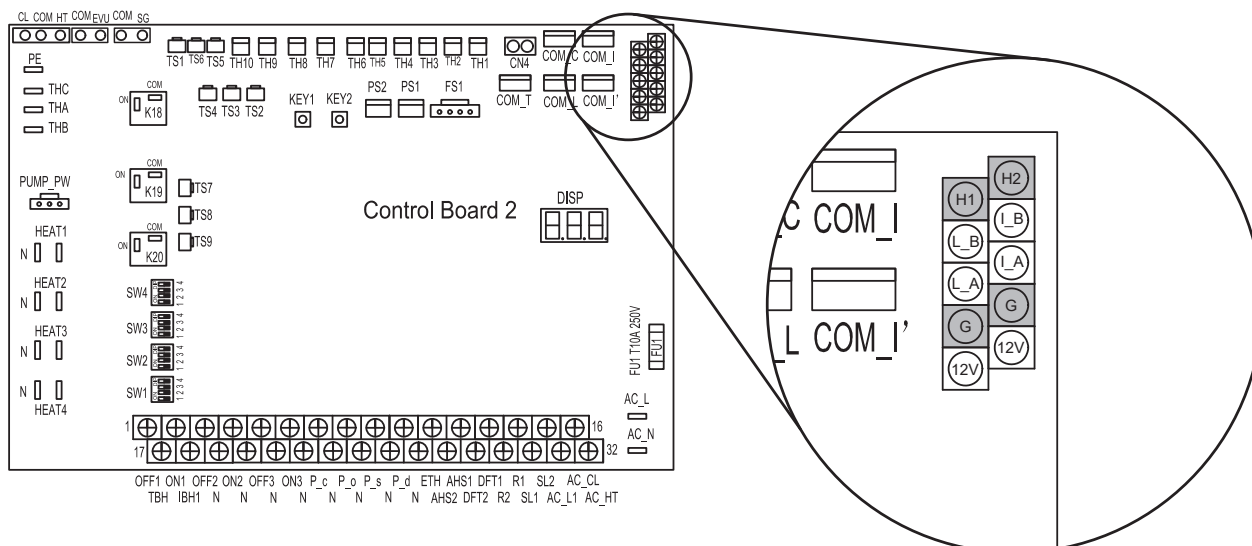

Figure 7-1: Hydraulic PCB U19 communication ports
5. Connect the modbus cable to the H1(B-) and H2(A+) and the shielding to an available ground (G) terminal on the Hydraulic PCB of the heat pump. Refer to Figure 7-1 and the caution below.
**Cable shielding MUST only be connected to a ground connection on the heat pump PCB. Refer to Figure 7-1.**